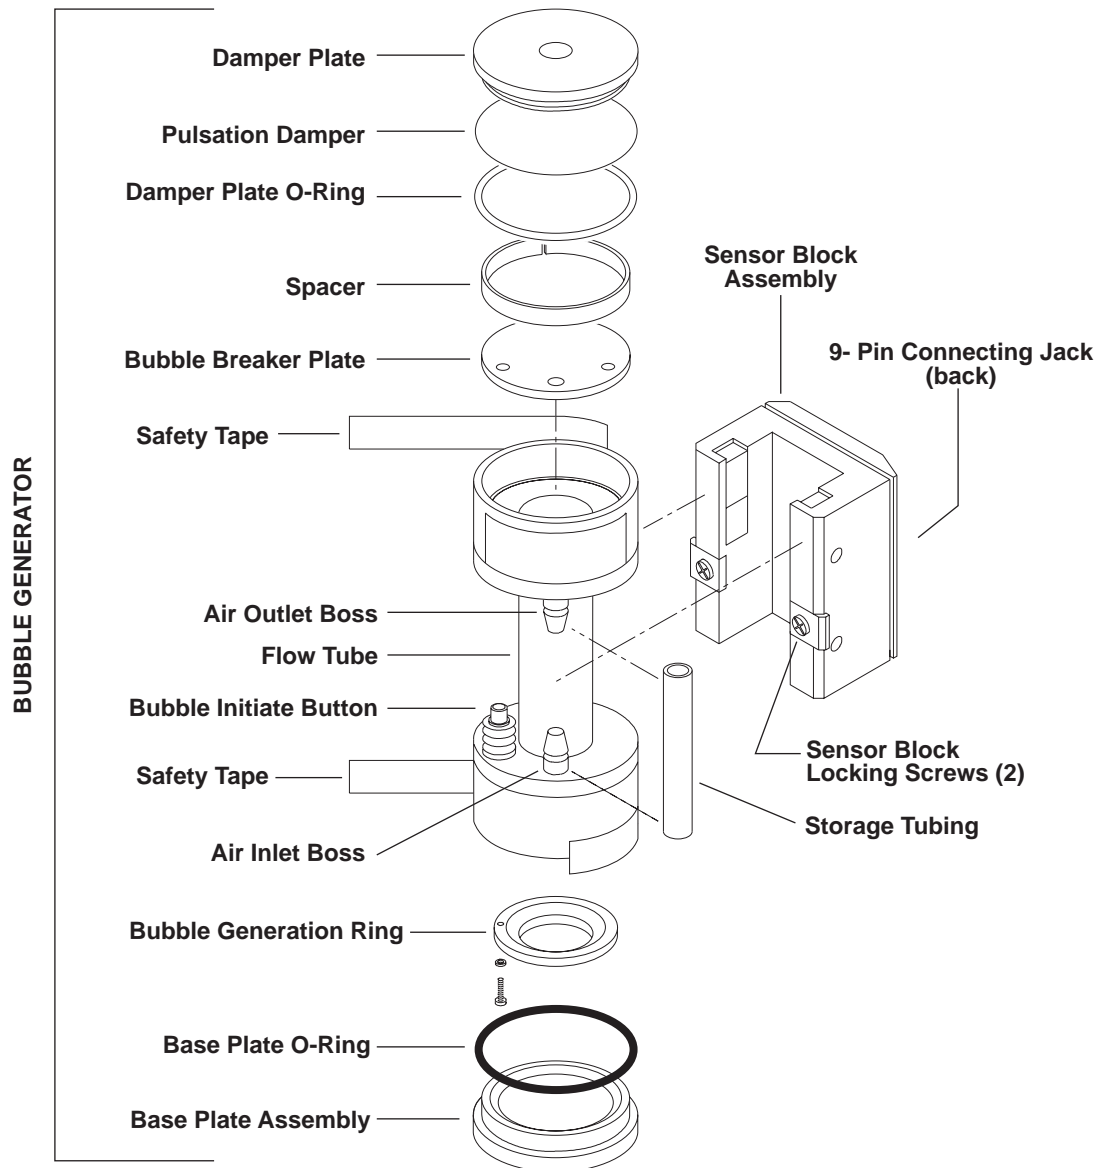
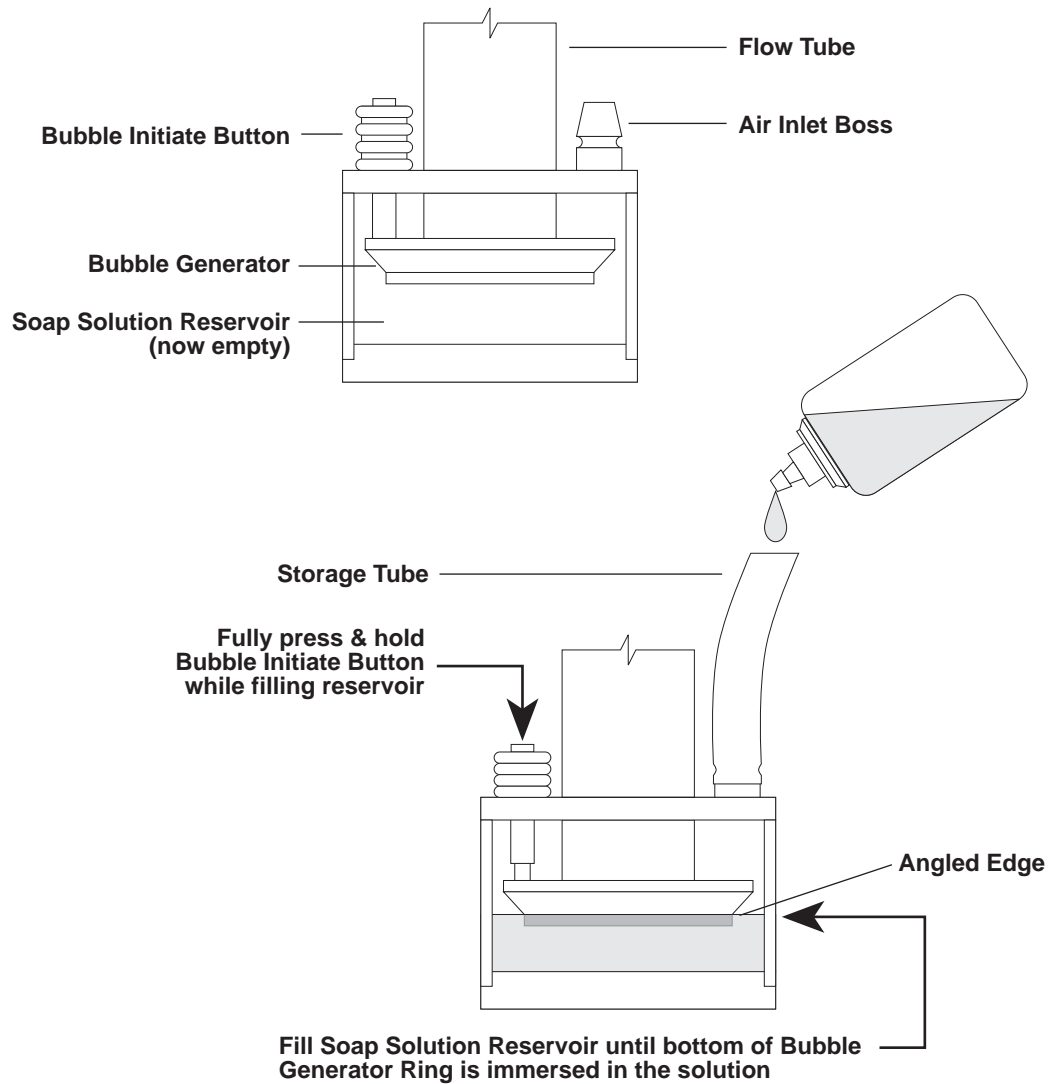

Figure 2.3
Figure 3.4
When installing a Wet Cell on the Control Base, insert the 9-Pin Interface Plug from the Control Base directly into the Connecting Jack located on the back of the Wet Cell (refer to figure 2.3). Be sure to properly match up the connectors before engaging.
- 1) Remove the Storage Tubing from the Air Outlet Boss (see Figure 2.3) of the Flow Cell. Fill the dispenser bottle provided with Gilibrator soap solution. Using the rubber Storage Tubing as a funnel, slowly add soap solution from the dispenser (refer to Figure 3.4).